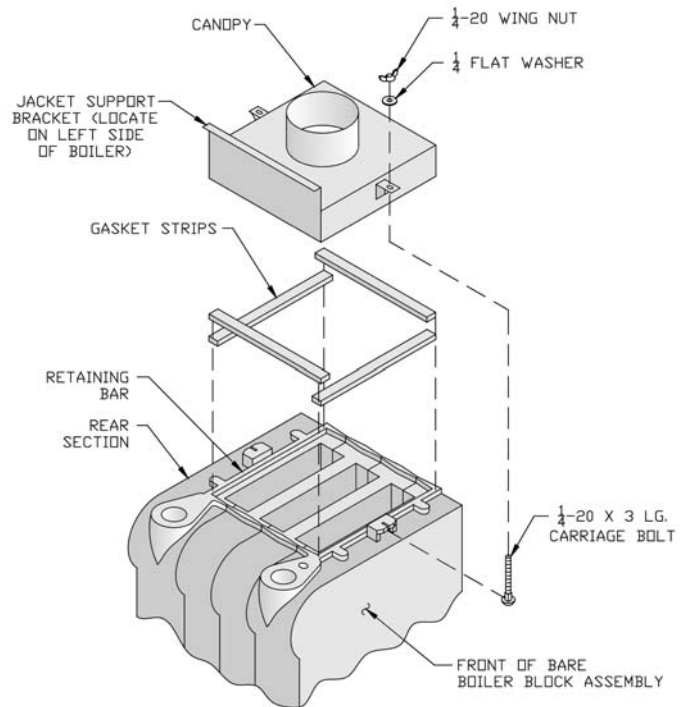

Figure 4: Boiler Canopy Installation
G. INSTALL AND SECURE CANOPY with gasket and hardware provided to ensure gas tight seal — see Figure 4.
1. Cut two (2) strips 13 3/4" long from the roll of gasket insulation. Place one (1) strip across the top of the front section and the other across the rear section as shown in Figure 4.
2. Cut the remainder of the roll into two (2) equal pieces. Place each piece along the sides, allowing the ends to overlap the front and rear pieces.
Jacket support bracket must be facing left side of boiler - see Figure 4. Jacket will not fit if bracket is not oriented correctly.